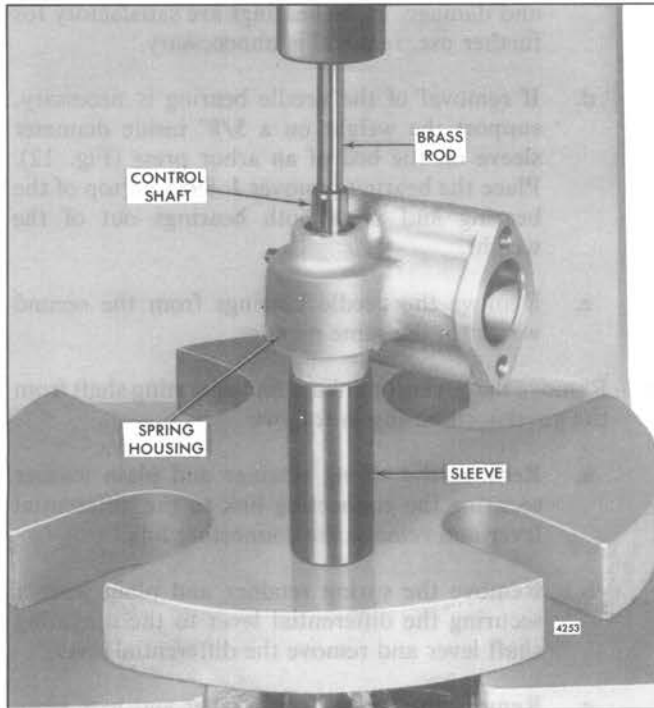

Fig. 7 - Removing Speed Control Shaft, Bearing and Cup Plug from Variable Speed Spring Housing
- e. Place a small brass rod on the end of the shaft, as shown in Fig. 7, and press the plug (if used) and bearing out of the spring housing.